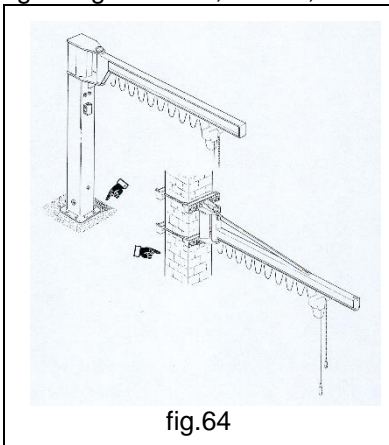

fig.64
- ALWAYS check the suitability of the structures (walls, pillars, foundations) which support the jib crane (fig. 64).